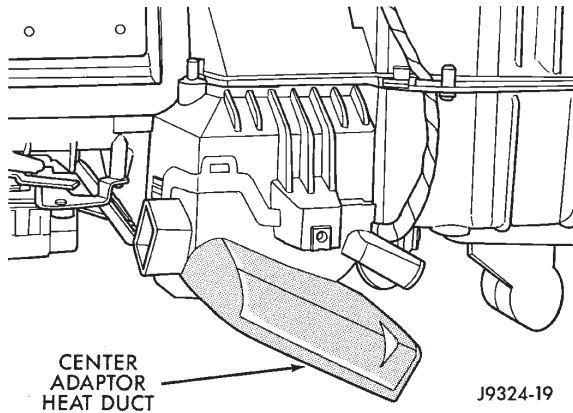
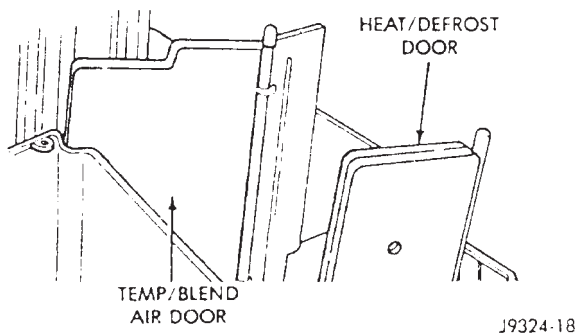

Fig. 20 Center Adaptor Heat Duct
Fig. 21 Temperature/Blend Air Door
- (1) Remove the heater-A/C unit from the vehicle (refer to Heater-A/C Unit Removal).
- (2) Turn the heater-A/C unit upside down.
- (3) Remove the retaining screws holding the two halves together. Remove the center adaptor heat duct (Fig. 20) and remove the screw.
- (4) Disconnect the electrical connectors.
- (5) Remove the bottom half of the heater-A/C unit (Fig. 21).
- (6) Remove the door (Fig. 21).
- (7) To replace the door-to-motor pivot connection, the motor must be removed.